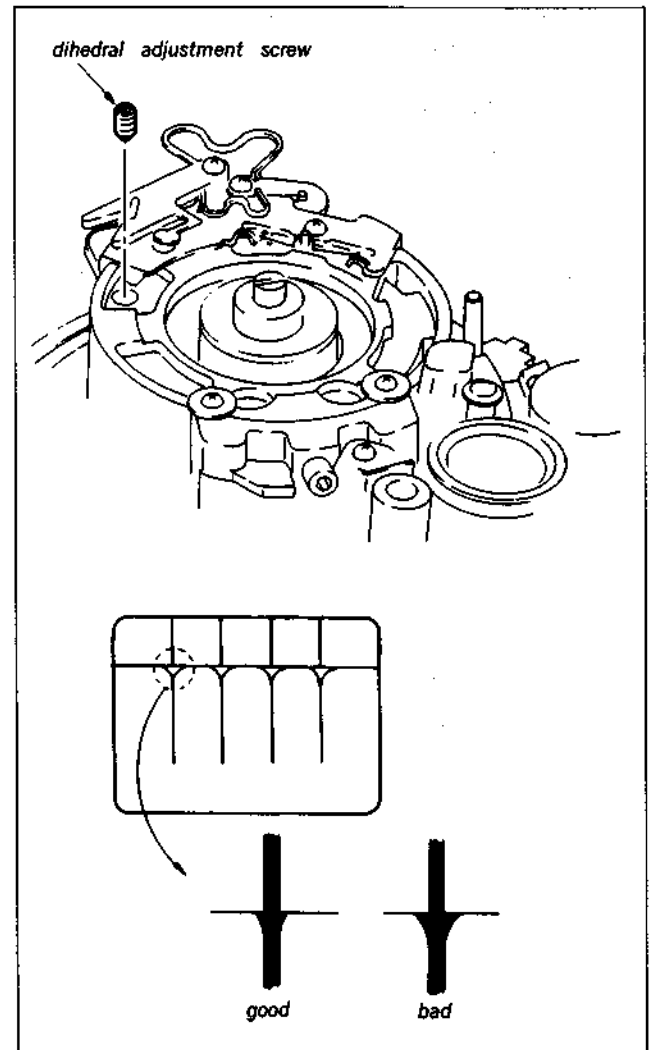

Fig. 3-3. Video head dihedral adjustment
- 1) As shown in Fig.3-3. screw two dihedral angle adjustment screws (SL-0013 in the list of fixtures and tools) into the adjustment screw holes on the side on which the red lead wires from the video head are connected until the top of the screw is level with the video head disk. (If they are not screwed in far enough, the video head disk will not turn past the point where the top of the adjustment screw strikes the upper drum. Conversely, if it is screwed in too far, the head base will be moved, throwing the video head dihedral angle way off.)